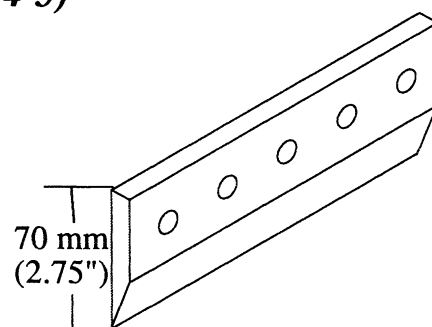

Fig. 4-5
### 4-2 SHARPENING SPECIFICATIONS (Fig. 4-5)
**(Fig. 4-5)**